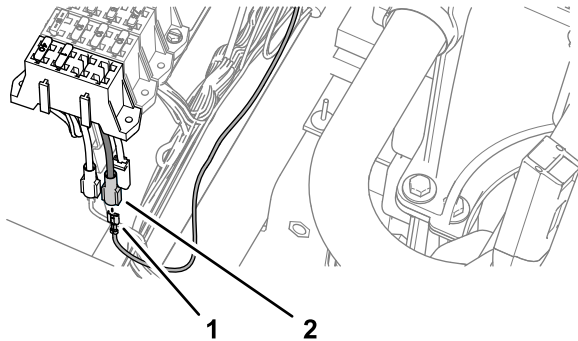

Figure 99
4. Plug the terminal of the kit wire harness labeled SWITCHED PWR into the blade connector for options power of the fuse block (Figure 99).